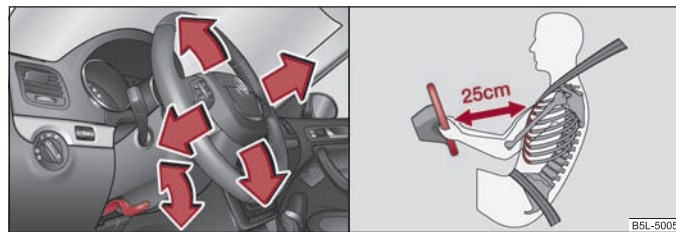

Fig. 3 Adjustable steering wheel: Lever below the steering wheel/correct distance to the steering wheel
- Pull the lever below the steering wheel down ⇒ fig. 3 - left.
- Adjust the steering wheel so that the distance between the steering wheel and your chest is at least 25 cm ⇒ fig. 3 - right. Not maintaining this minimum distance will mean that the airbag system will not be able to properly protect you - hazard!